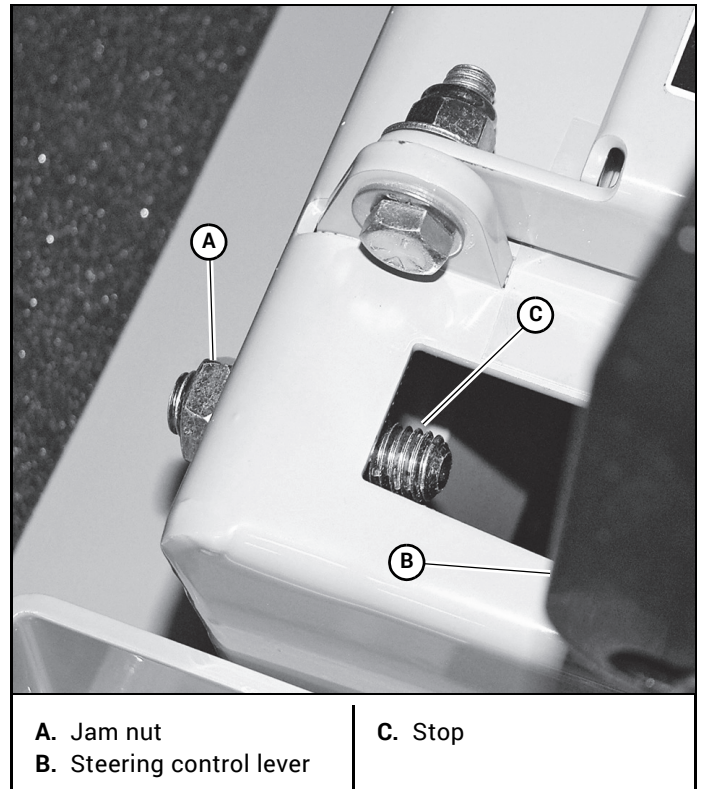

Figure 4-5
1. Determine which drive tire is rotating too fast when both steering control levers are against the stops in the control panel. Figure 4-5